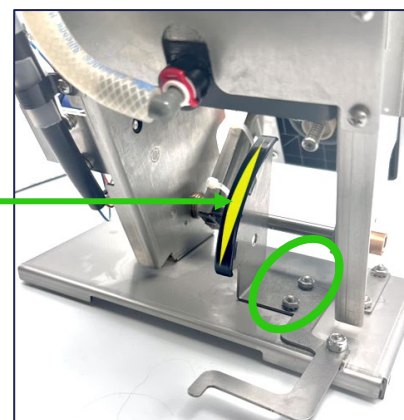

Fig. 4
5. Apply lubricant to cam slope in highlighted area (Fig 4.)